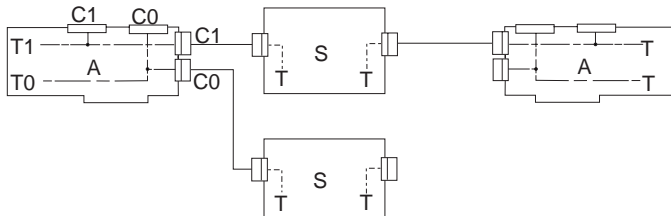
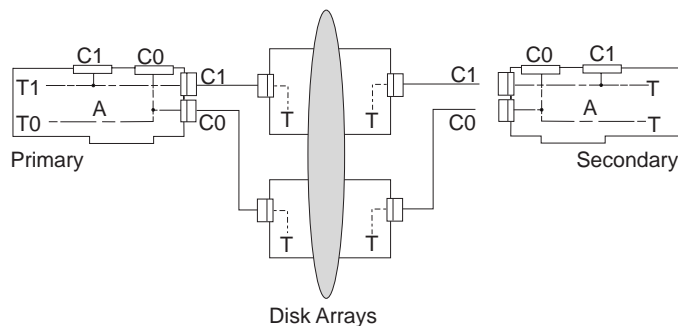

Figure 6. JBOD (512 byte/sector standalone disks (hdisks))
Figure 7. Disk Arrays (522 byte/sector disks (pdisks))
5. Refer to the Figure 6 on page 24 and Figure 7 on page 24 and attach cables from the shared disk enclosures to the same SCSI bus port on each adapter.